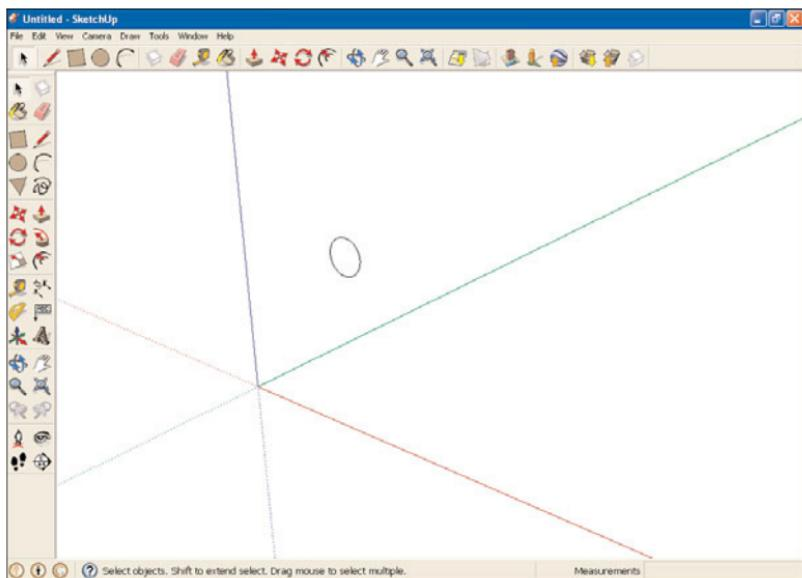

FIGURE 8.18 A circle.
2. Select the **Circle tool** and draw a circle like the one shown in Figure 8.18.